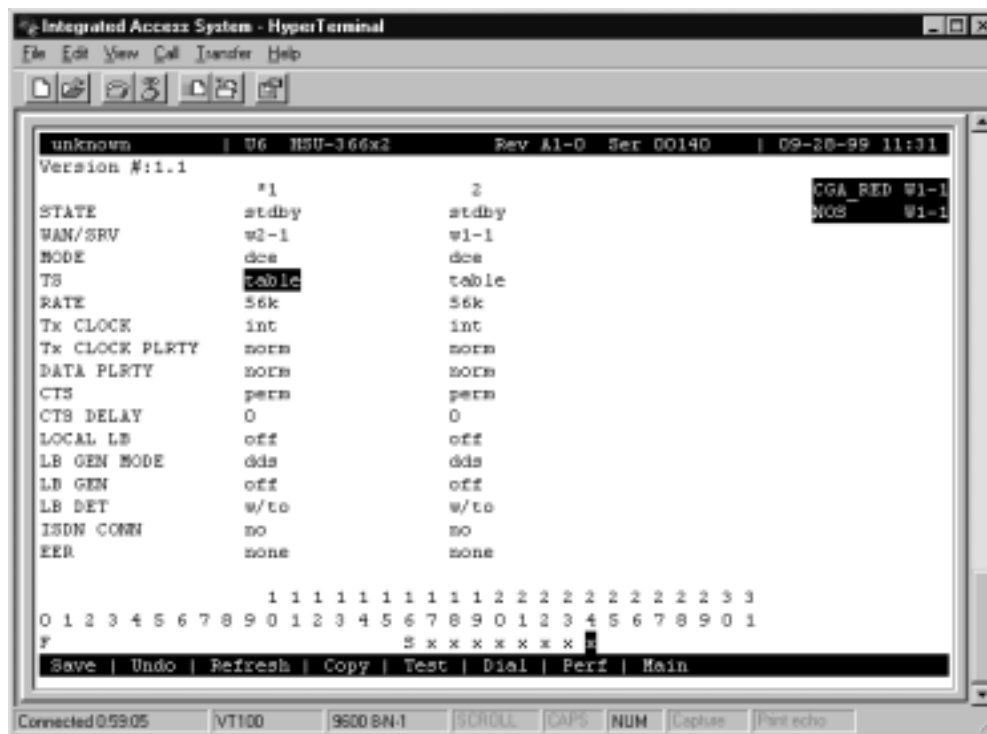
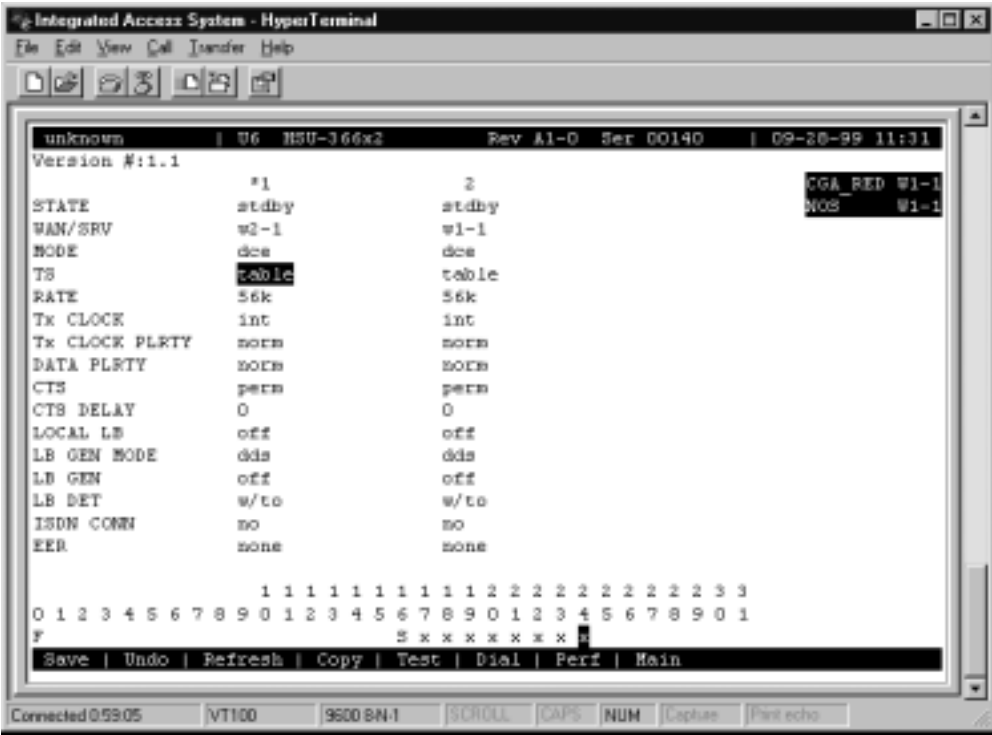

Figure 5-26. Typical HSU Card Time Slot Assignments for T1
Figure 5-27. Typical HSU Card Time Slot Assignments for E1
Figure 5-26 shows the HSU Card Main Screen for the time slot assignment example. Assign time slots to this card as follows:
2. Select the WAN port to which you want to assign the HSU port. In Figure 5-26, this port is **W1-1** (for WAN 1, port 1).
4. Place an “x” under each desired time slot, using the space bar to either select or de-select a time slot. Use the right arrow key to move to the next time slot (TS) for selection. Then, press <Enter>. In Figure 5-26 (for T1), the HSU port is assigned eight time slots (9 to 16). In Figure 5-27 (for E1), the HSU port is assigned eight time slots (17 to 24).